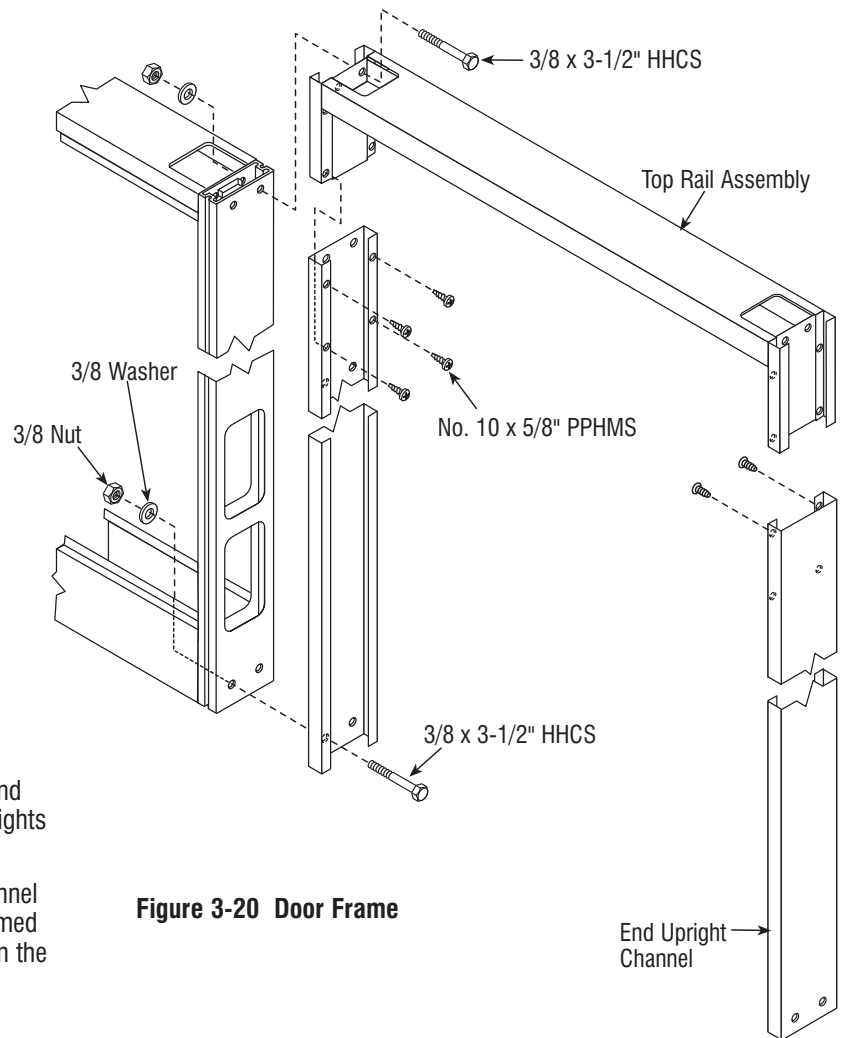

Figure 3-20 Door Frame
2. Slide the end upright onto the end channel of the top rail. This step is best performed with the top rail placed upside down on the floor. See Figure 3-20.